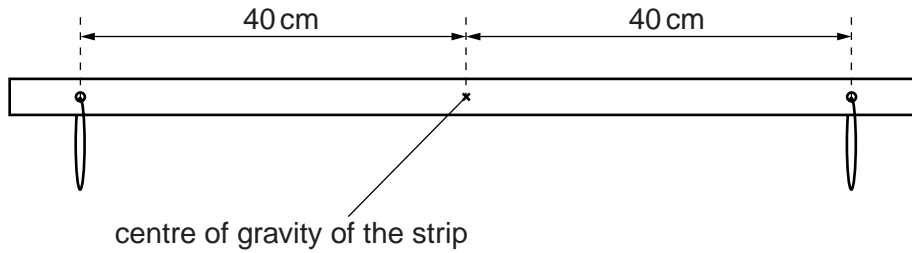

Fig. 1.1
- 1 The wooden strip should have two holes drilled in it as shown in Fig. 1.1.
The three loops of string should each be of approximate circumference 15 cm. Two of the loops should be tied through the holes in the strip as shown in Fig. 1.1. The third loop should be placed on the bench for use by the candidate.